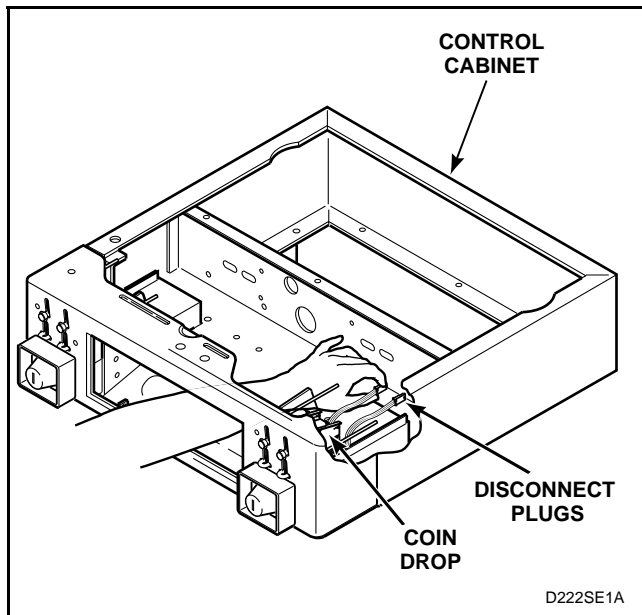

Figure 21
- (6.) Reach into control cabinet to feel position of coin drop. Disconnect coin drop harness at disconnect plug. See *Figure 21*.
- (6.) Reconnect coin drop harness plug. See *Figure 21*.